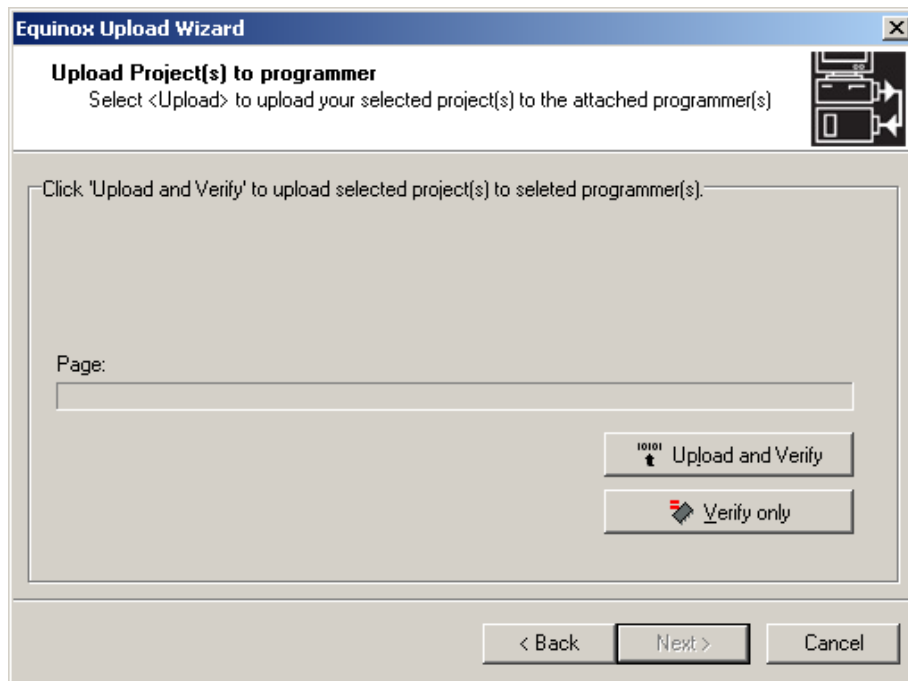

Figure 24 Programmer Upload Wizard – Upload window
7. Press *Next* and the window depicted in Figure 24 will open.